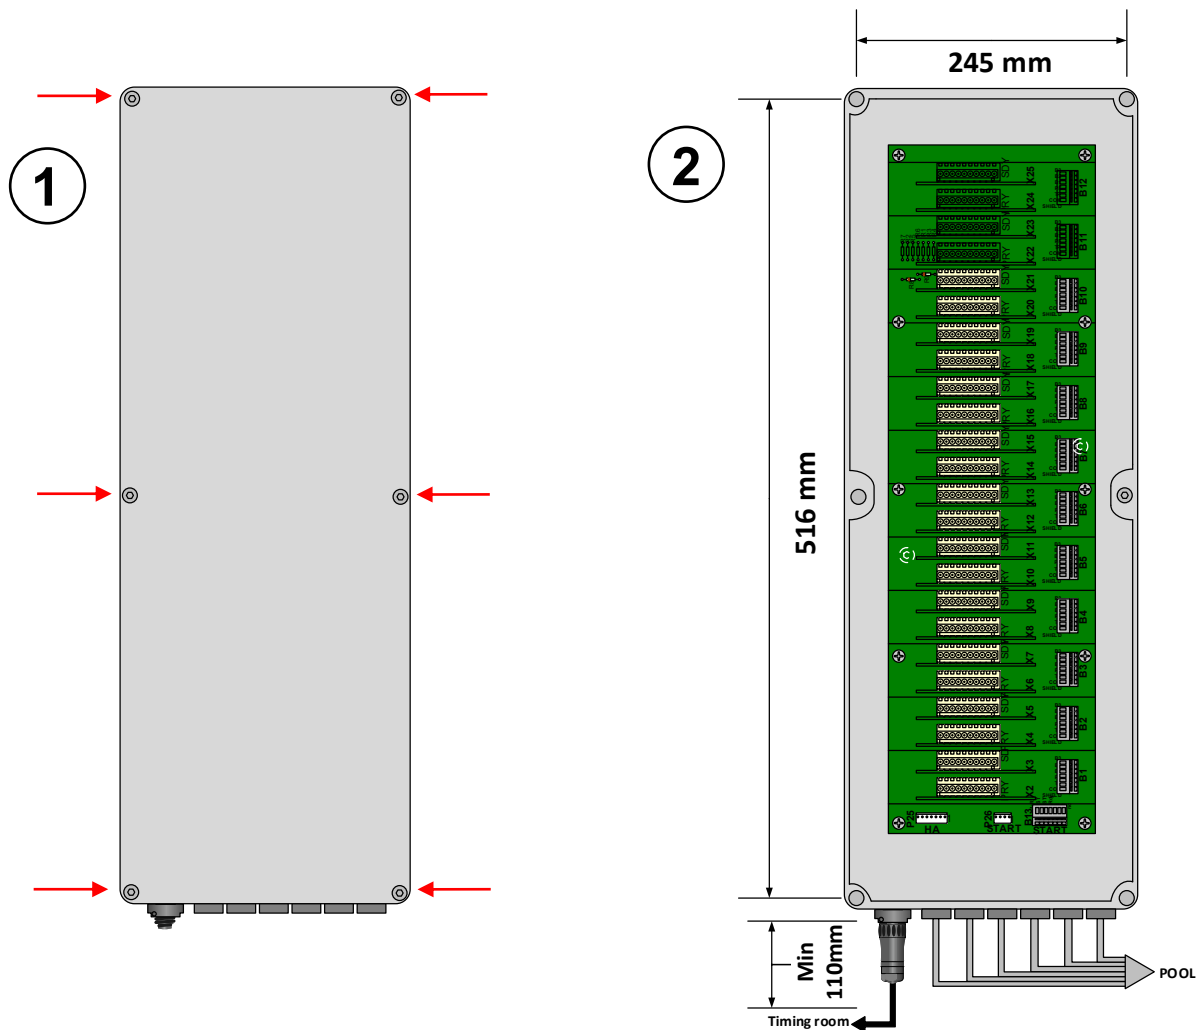

Figure 3 – ODB10-SW without cover
- 2) Fix the ODB10-SW to the wall according to dimensions in *Figure 3*.